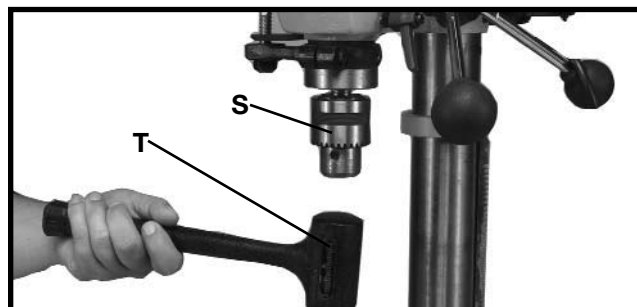

Fig. 16
11. **IMPORTANT:** Open the chuck jaws as wide as possible by turning the chuck sleeve (S) Fig. 16.
12. Holding chuck on taper of spindle, tap with a soft tip hammer (T) or a block of wood and hammer to set chuck, as shown in Fig. 16. **IMPORTANT:** To avoid damage to the chuck, **NEVER** drive the chuck onto the spindle with a metal hammer.